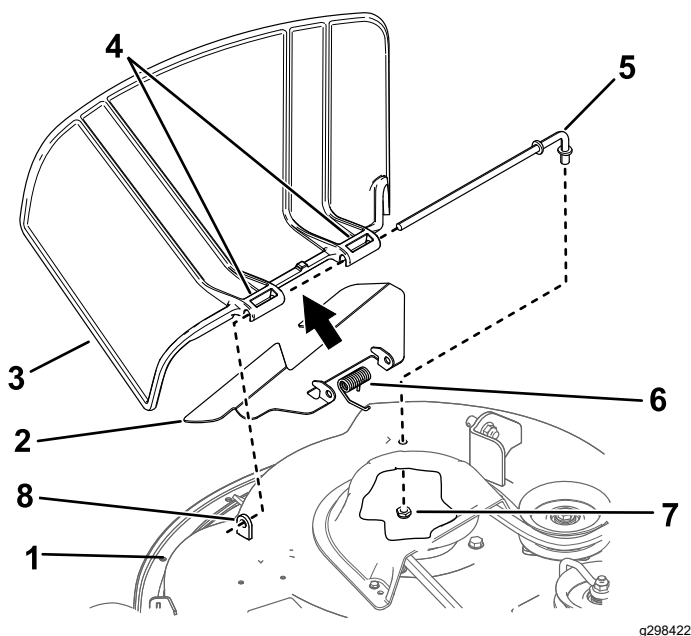

Figure 74
1. Remove the nut (3/8 inch) from the rod under the mower (Figure 74).
7. Slide the rod through the second grass-deflector pivot (Figure 74).
9. Secure the rear end of the rod into the mower with a nut (3/8 inch) as shown in Figure 74.
2. Slide the rod out of the short stand-off, spring, and grass deflector (Figure 74).
4. Install the new grass deflector (Figure 74).